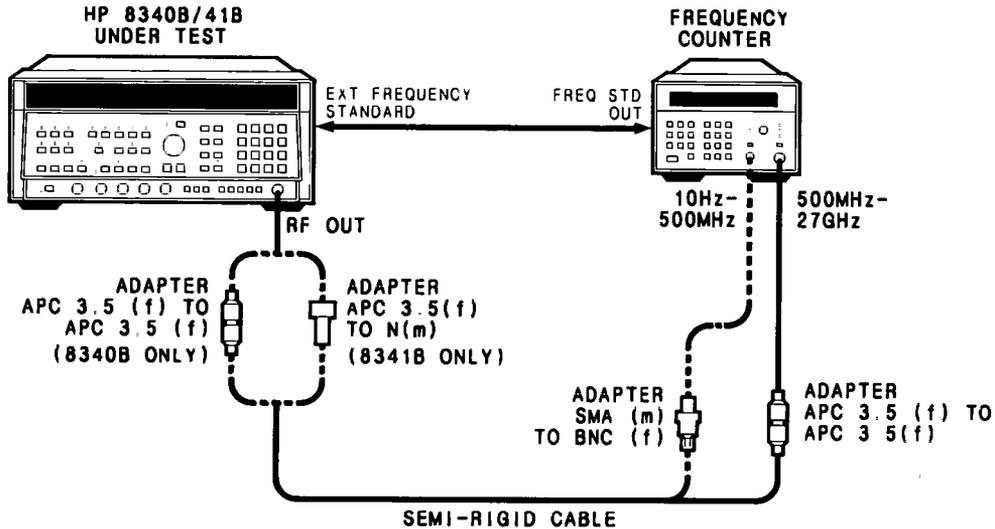

Figure 4-2. Frequency Range Test Setup
- 1 Connect the equipment as shown in Figure 4-2. Connect the DUT RF Output to the 10 MHz-500 MHz counter input. Allow the equipment to warm up for one hour. The DUT and the Frequency Counter use the same frequency standard to eliminate time base error from the measurement. Set the HP 8340B/41B rear panel FREQUENCY STANDARD switch to EXT.